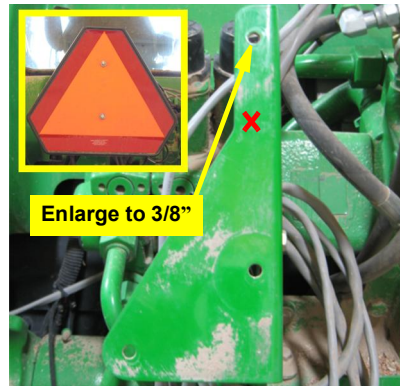
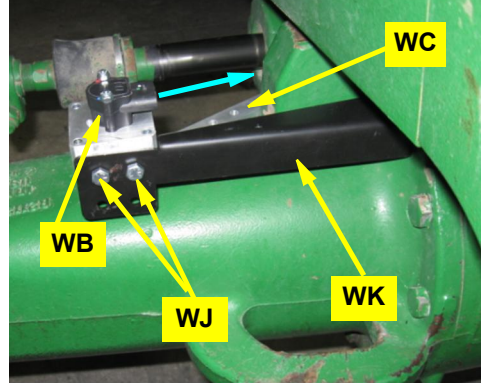

Figure 2a (with inset): Steering block mounting location
Figure 2b: Installed WAS assembly
- a. Remove the SMV (slow moving vehicle) triangle from the rear of the tractor (Figure 2a inset).
Enlarge the top bolt hole in the exposed bracket to 3/8" (Figure 2a). Using the steering block as a template, mark then drill a second 3/8" hole in the SMV bracket (the holes center-to-center will be 2-7/8").
a. Remove the bolt immediately in front of the axle stop on the right hand side of the steering axle (Figure 2a). Using the bolt, install WAS mount **WK**. (The bolt will not be visible from the front of the machine - Figure 2a inset and Figure 2b).
Figure 2a with inset: Installed WAS mount
b. Using hardware **WJ** install the WAS assembly on its mount **WK** (figure 2b). Mount the assembly: